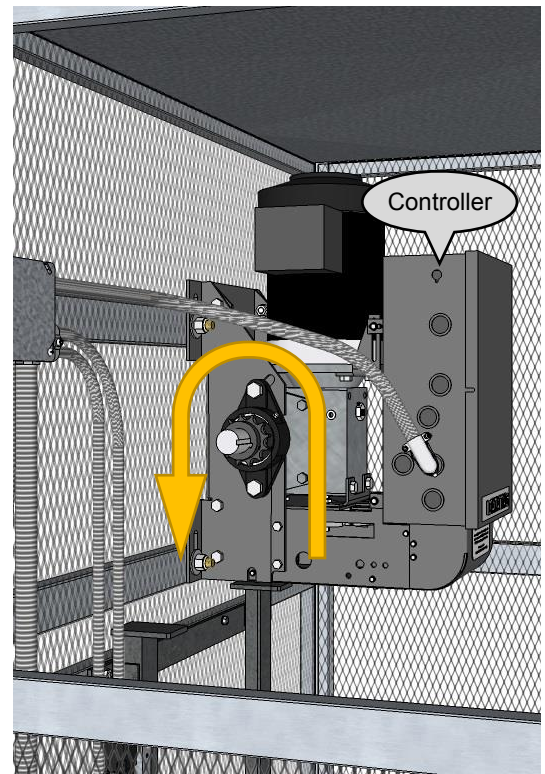

Figure 25
- 3 Watch the rotation of the sprocket when the up contactor is pressed. If the direction of rotation is not the same direction as shown in Figure 25, go on to Step 4. If the direction of rotation is the same as shown in Figure 25, go on to Step 5.